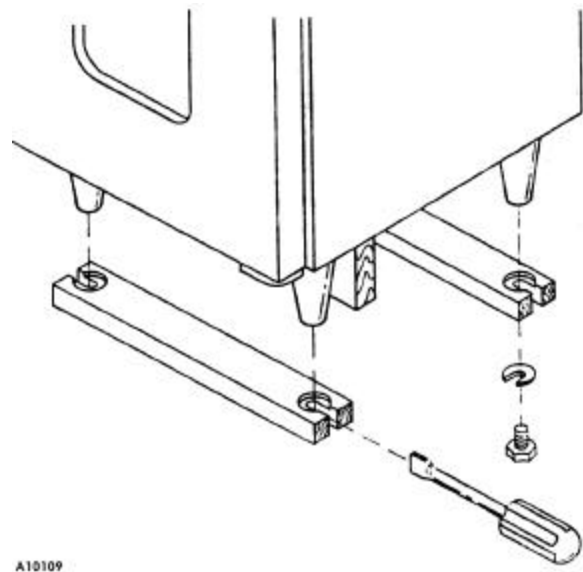

Figure 1. Removing the Knock-A-Way Support INSTALLATION
4. Remove the "Knock-A-Way" support by placing a 2" x 4" board under the vendor, inserting a large screwdriver or prying tool into the groove of the Knock-A-Way and splitting it in two. Turn the leveling screws in as far as possible. See **Figure 1**.